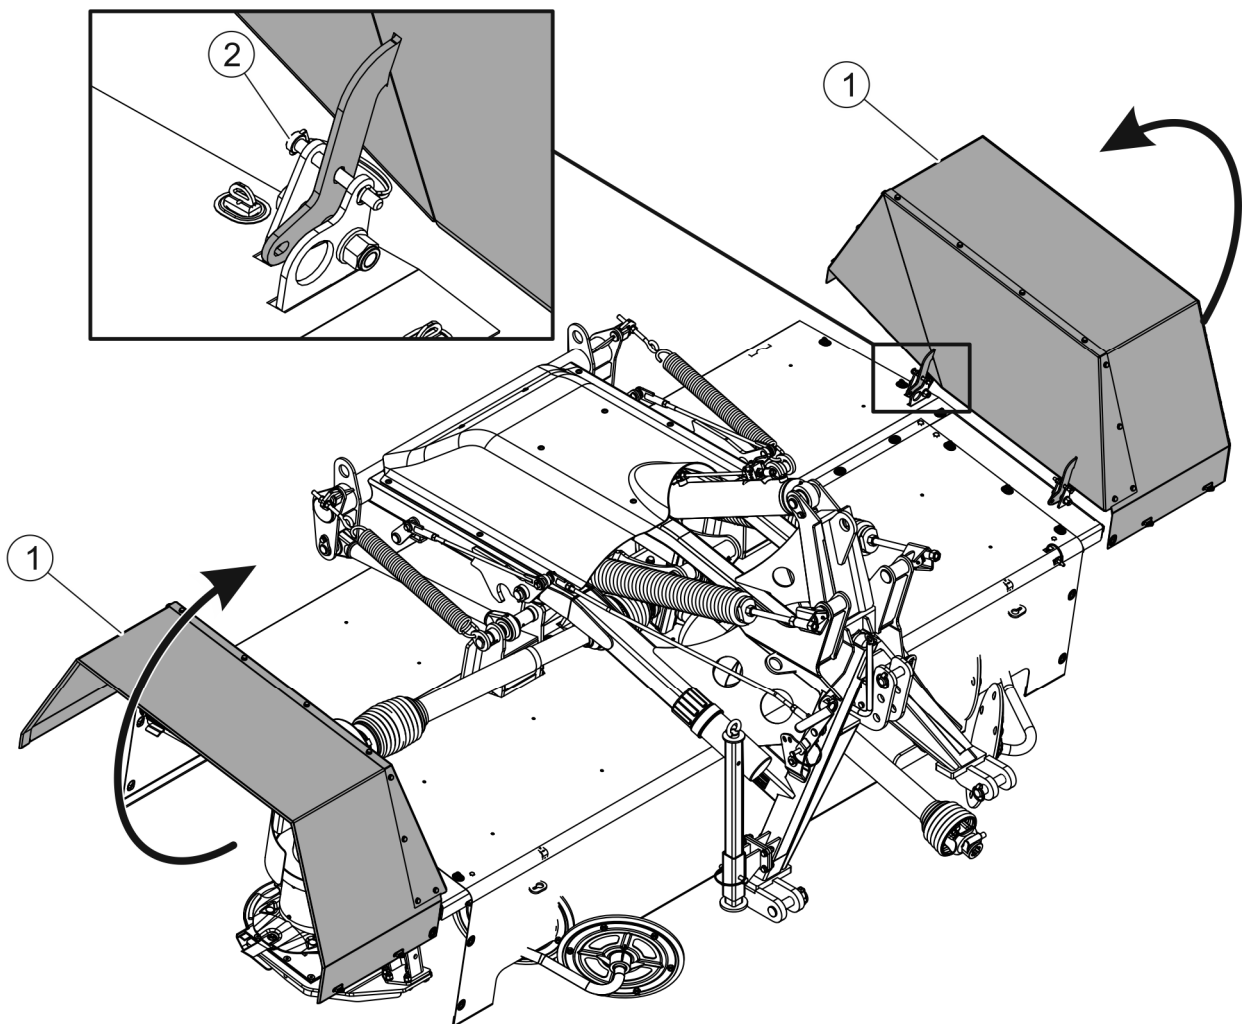

FIGURE 4.4 Raising guards to the transport position
(1) – side guards; (2) – securing pins
- raise mower side guards (1) and secure with pins (2) (FIGURE 4.4).